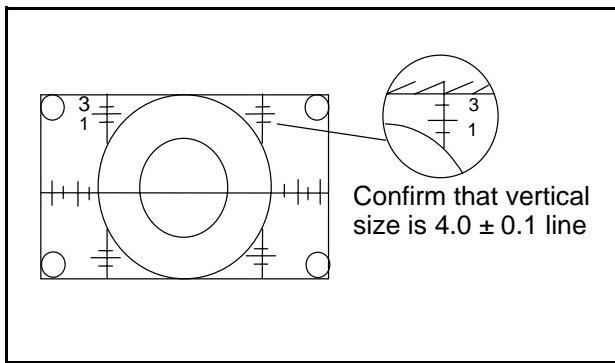

Figure 36. Vertical Size Adjustment
3. In Serviceman Menu select D-00 (V size) by channel keys and adjust V size as following. See Figure 36.